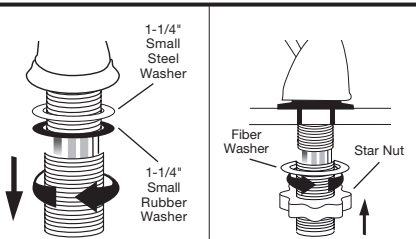

Figure 1
- Unscrew and remove threaded extension from valve body. **Do not discard, as you will need this later** (See Figure 1).